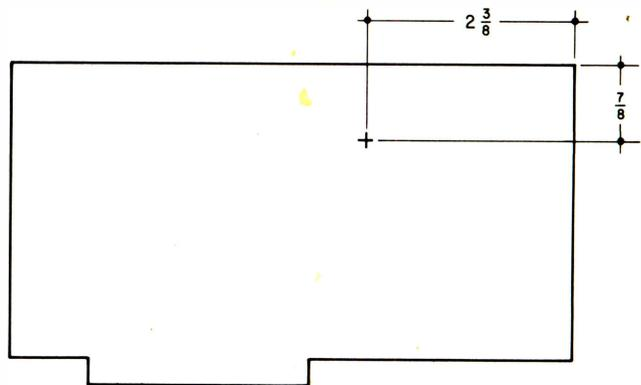

Figure 1. Feedthru Location - A17 Board
5. Drill ( $7/32''$ ) (5.5 mm.) hole in location shown in Figure 1. **CAUTION:** Start with a small size drill and enlarge hole in steps to prevent drill from seizing.